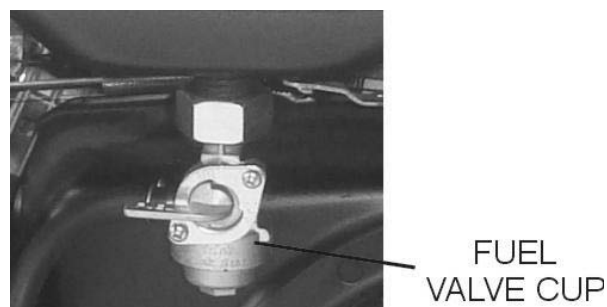

Figure 24- Removing the Fuel Filter Cup
2. Unscrew the fuel filter cup from the fuel valve using a wrench. Turn the valve toward you to unscrew (see figure 24).